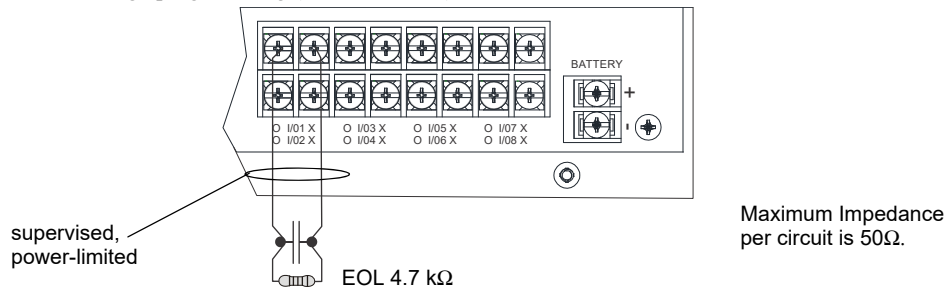

Figure 4.46 Class B Input Switches
1. Wire the Class B switch as shown in Figure 4.46.